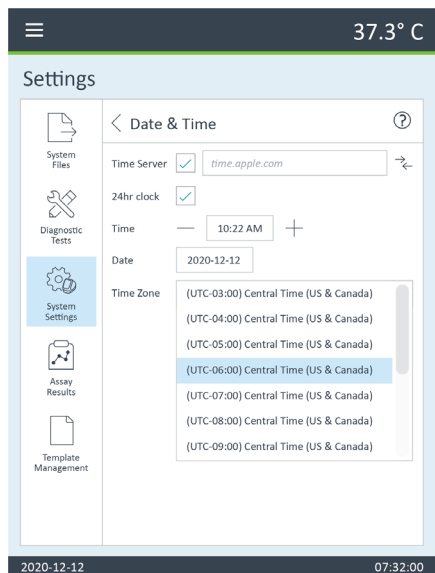

Figure 36. Select the local time zone for your XF HS Mini Analyzer
- 2 Select the **Date & Time** tab. (Figure 36)